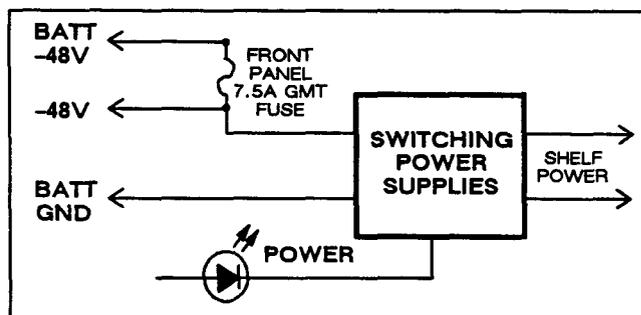

Figure 2. DDL210 COT Power Unit Block Diagram
2.01 The Wescom DDL210 COT Power Unit converts -48Vdc to the voltages required to power the RT (Remote Terminal) and the COT (Central Office Terminal) equipment. The COT Power Unit provides idle line voltage that is within A2 limits; +50V and -80V Tip to Ground or Ring to Ground. The COT Power Unit also provides busy and ringing line voltage that is within A3 limits; ±140V Tip to Ground or Ring to Ground. Refer to Figure 2 for the Block Diagram of the DDL210 COT Power Unit.